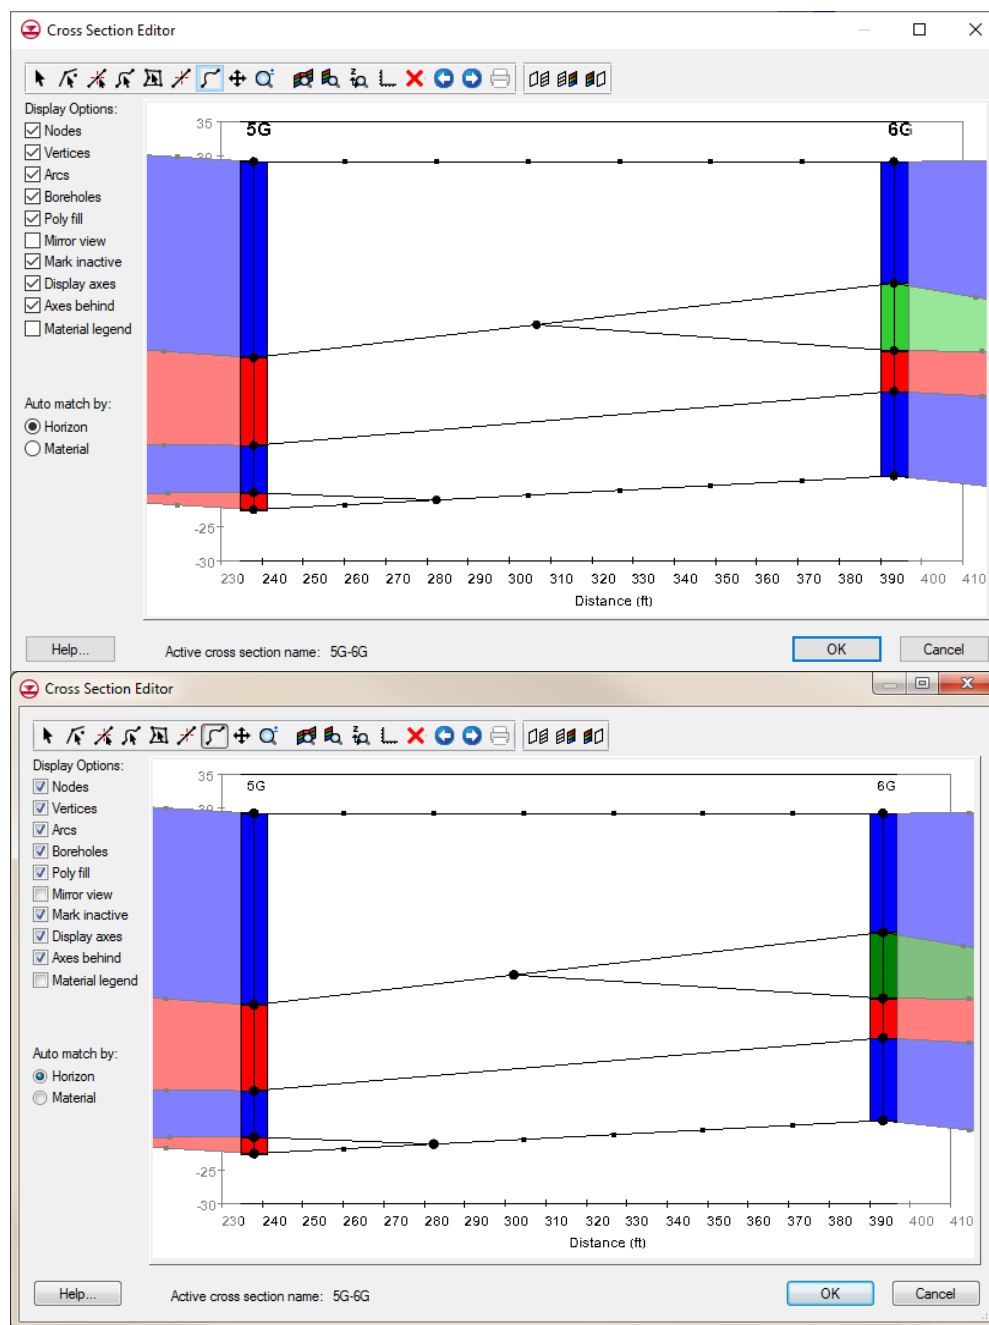

Figure 9 Cross section 5G–6G being edited
6. Using the **Create Arc**  tool, create the cross sections shown in Figure 9.